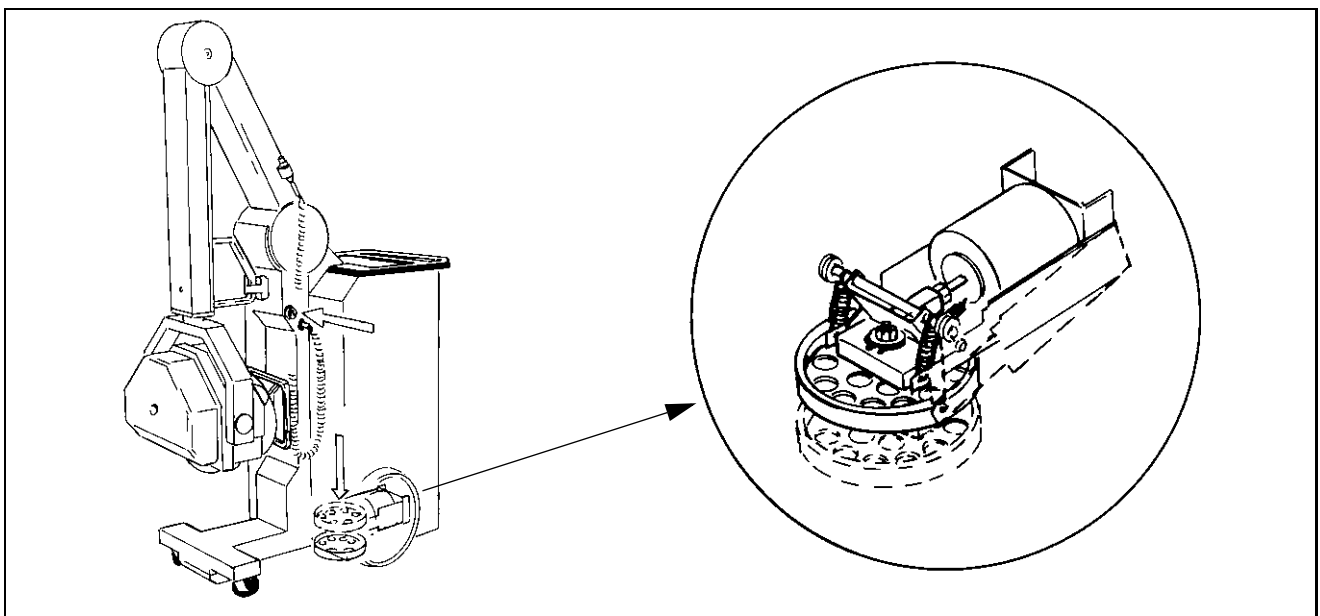

Fig. 19:
- Check whether the system can be rotated around the turn plate (Fig. 19 / p. 37) .